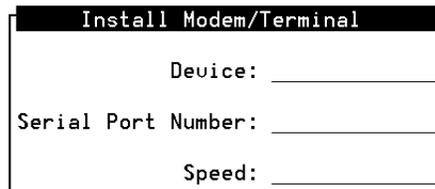

Figure 4-4. Install Modem/Terminal Window
5. The system displays the Install Modem/Terminal Window (Figure 4-4).